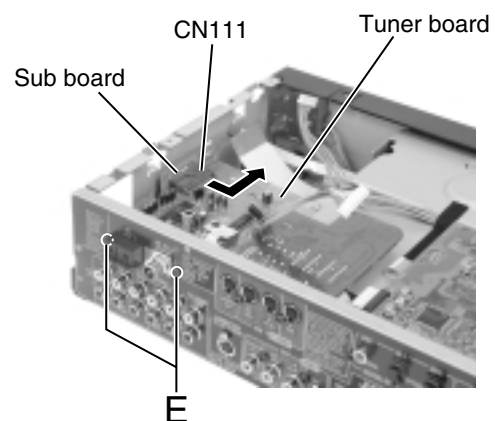

Fig.20
■ Removing the tuner board / the sub board (See Fig.20 and 21)